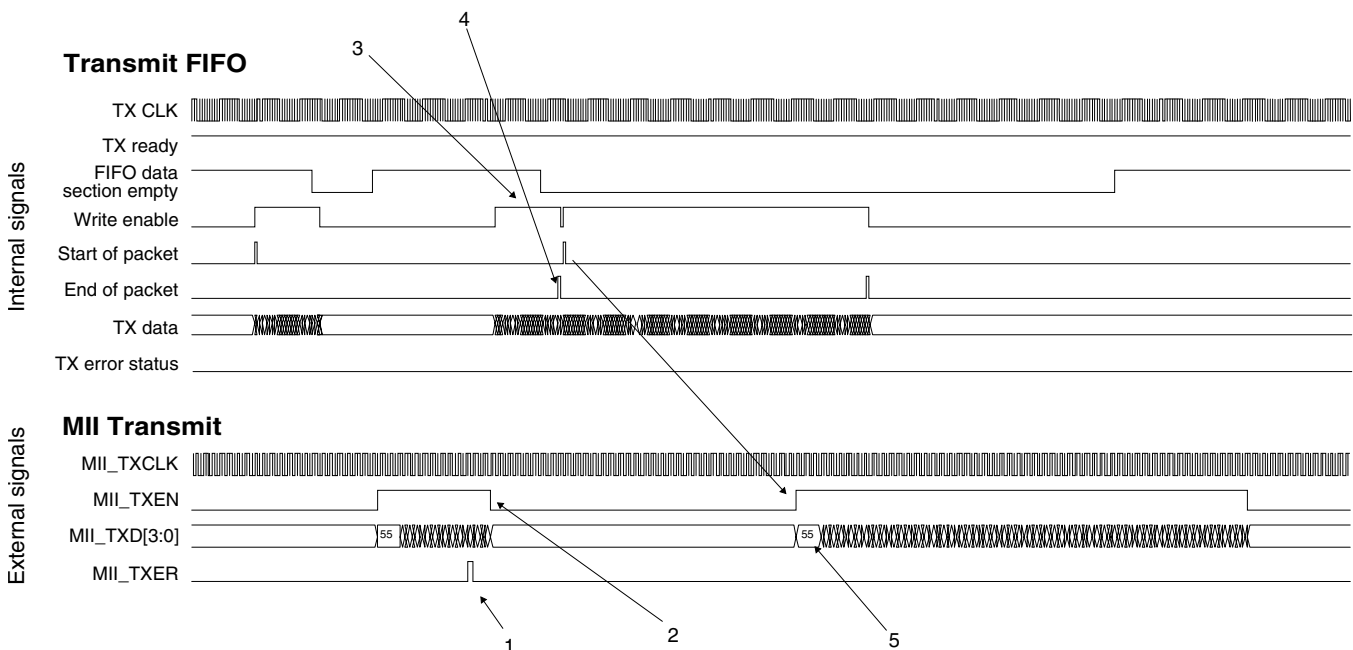

Figure 45-66. Transmit FIFO underflow protection
- Asserts the MII error signal (MII_TXER) (1 in Figure 45-66) to indicate that the fragment already transferred is not valid
- Deasserts the MII transmit enable signal (MII_TXEN) to terminate the frame transfer (2)